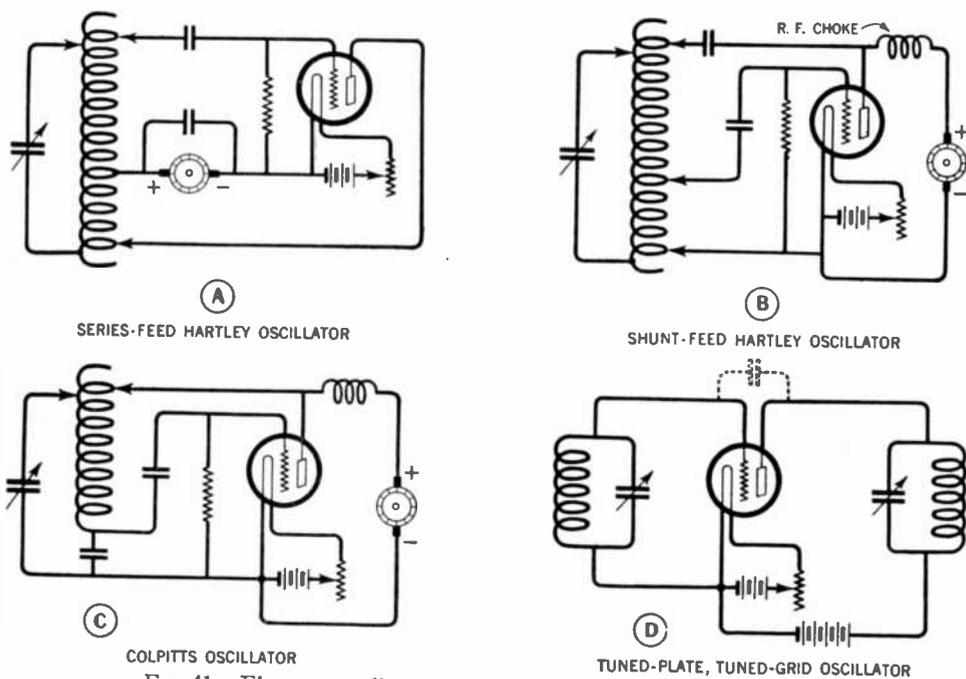

FIG. 41.—Elementary diagrams of vacuum tube oscillatory circuits.
*Answer.* (1) A Hartley type oscillator is shown in the circuit arrangement in views *A* and *B*, Figure 41. By utilizing this method the requisite feed-back voltage is obtained from the voltage drop across a certain portion of the inductance, that is, from the turns included between the grid and filament leads, when current circulates through the system. View *A* shows a series-feed type and view *B* a shunt-feed type.
(2) A Colpitts type oscillator is illustrated in the diagram of view *C*, Figure 41. This circuit obtains the requisite feed-back voltage for maintaining the circuit in a state capable of generating continuous oscillations from the voltage drop across the condenser to which the grid and filament leads are attached. This condenser is called the grid input or grid excitation condenser.
(3) A typical tuned-plate tuned-grid oscillator system is shown in view *D*, Figure 41. The feed-back is provided through the internal capacity between